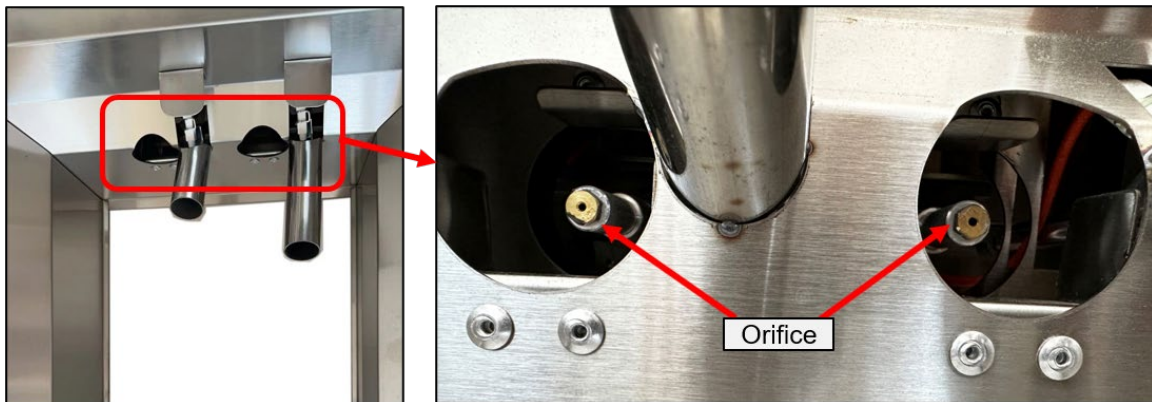

Figure 21 Burner Orifice Leak Test
6. Looking through the openings behind the burner knobs (Figure 21), spray each orifice with soapy water to check for bubbles